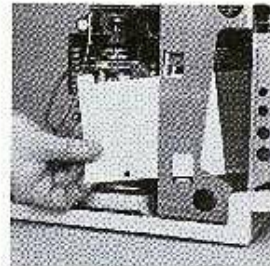

Figure 3-15
- b. Install the clear plastic shield (supplied in the installation kit) between the host connector card and the chassis, as shown in Figure 3-15.
Figures 3-15 and 3-17 show a white plastic shield to better illustrate the shield placement.